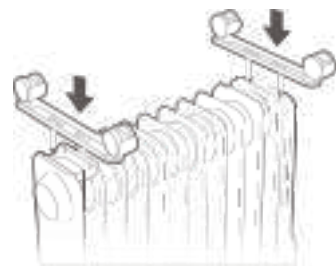

figure 1
- 2. As shown in figure 1, align the mounting hole of a set of caster assembly and install it on the screw of the caster pad plate at the end of the radiator fin, and The other caster assembly is aligned to the screws mounted at the bottom of the control box.